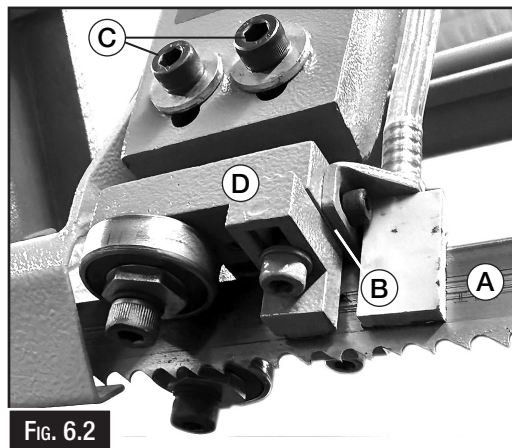
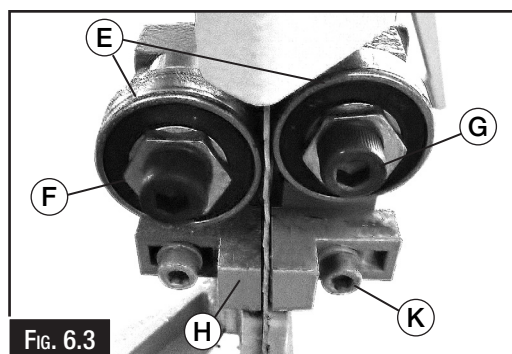

FIG. 6.2
FIG. 6.3
3. The back of the blade (A) should ride against the back-up carbide pad (B). (Fig. 6.2)
4. Loosen set screws (C) and move the guide block assembly (D) up or down, until it lightly touches the back of the blade.
5. The saw blade (A) should also ride between and lightly touch the two blade guide roller bearings (E). The bearings (E) are mounted on an eccentric shaft, and can easily be adjusted to suit blade thickness by loosening set screw (G) and turning the hex shaft (F).
6. The carbide blade guides (H) should also be adjusted so they lightly touch the blade by loosening screw (K) and adjusting in or out. (Fig. 6.3)